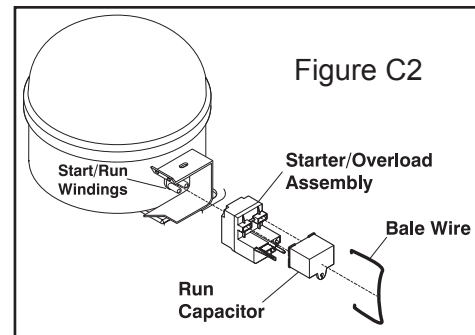

Figure C2
3. Remove relay assembly from compressor. (See Figure C2.)